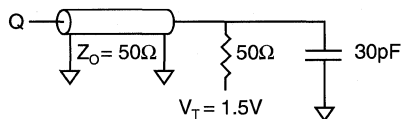

Fig. 1 OUTPUT LOAD EQUIVALENT
Output load .....	See Figures 1 and 2
- Test conditions as specified with the output loading as shown in Fig. 1 unless otherwise noted.